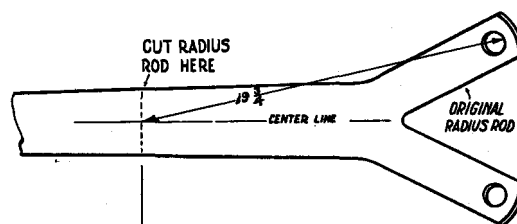
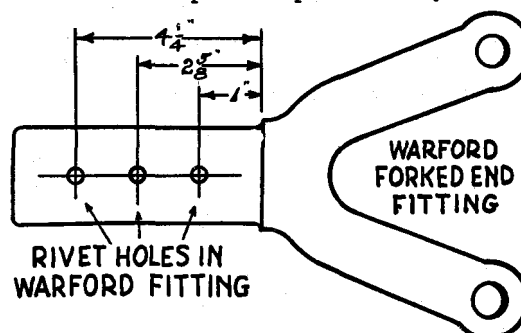

Fig. 3
Fig. 4
5. Remove the radius rods and cut them off EXACTLY as shown in Fig. 3. Make the measurement carefully and have the two alike. Any error in this cutting dimension will throw a strain on the coupling sleeve and cause serious difficulty. Then insert the Warford Radius Rod forks in the open ends of the cut radius rods and DRIVE IN UP TO THE SHOULDER—See Fig. 4. Then drill the rivet holes, insert the rivets furnished for the purpose, and rivet in place.